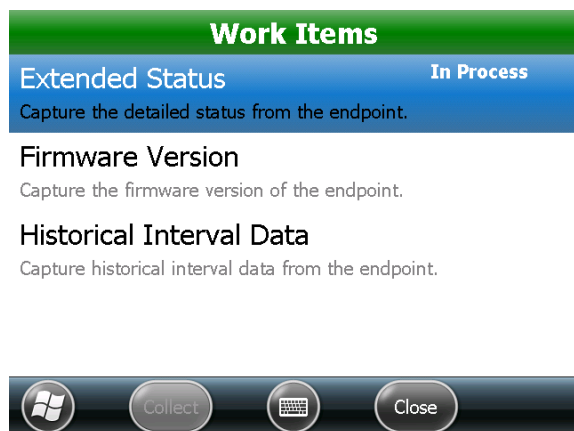

Figure 39: In process
*Result: "In Process" displays next to the Extended Status field as data collection begins. See Figure 39.*